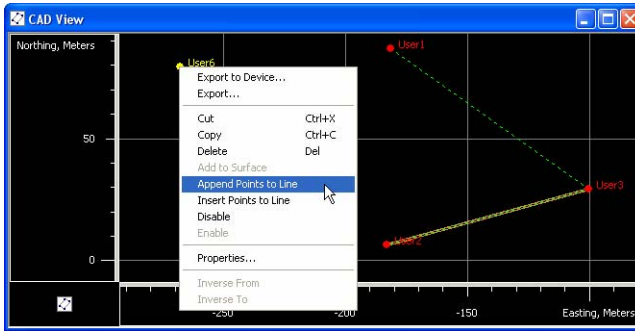

Figure 5-44. Appending Points Using the Pop-up Menu
1. Right-click the desired point in the CAD View and click **Append Points to Line** on the pop-up menu (Figure 5-44 on page 5-36). The pointer will change to indicate that ‘append points’ mode has been activated.